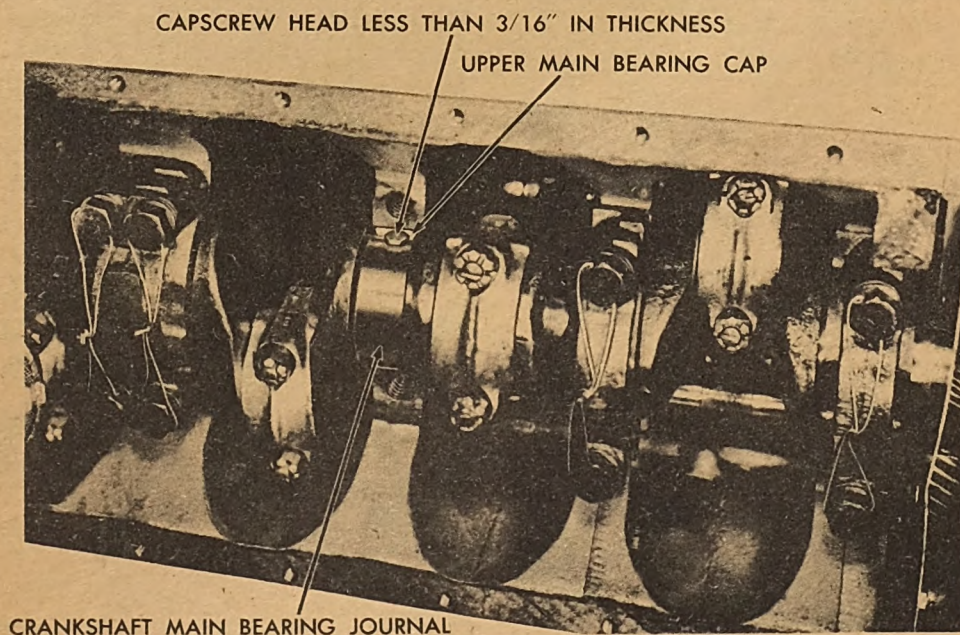

Fig. 141. Removing Upper Main Bearing Shell
e. *Field Replacement of Main Bearings.* Replacement can be made in the field by simply pushing out the old shell as shown in Figure 141. This is best done by inserting into the oil hole in the crankshaft journal, a small bolt of practically the same diameter as the oil hole in the shaft; but with the head filed down to less than  $\frac{3}{16}$  inch. Slowly turn the crankshaft